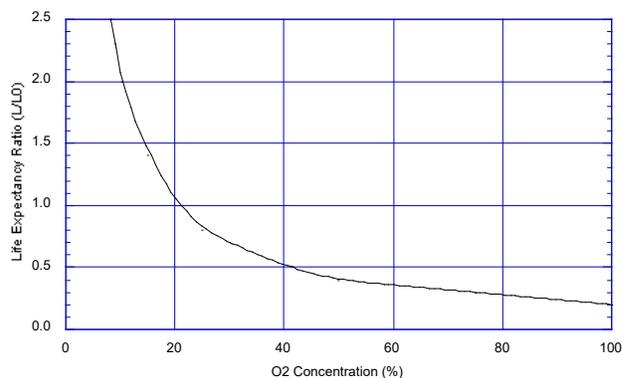

Fig. 9a - Relationship of life expectancy vs. O₂ concentration (L₀ = life at 20.7% O₂)
Figure 9a shows the relationship between life expectancy and O₂ concentration for SK-25. The Y-axis indicates the ratio of life expectancy in a given O₂ concentration (L) to life expectancy at 20.7% O₂ (L₀). The greater the O₂ concentration, the shorter the life expectancy. The influence of atmospheric pressure on life expectancy is estimated based on the O₂ concentration in a given atmospheric pressure.